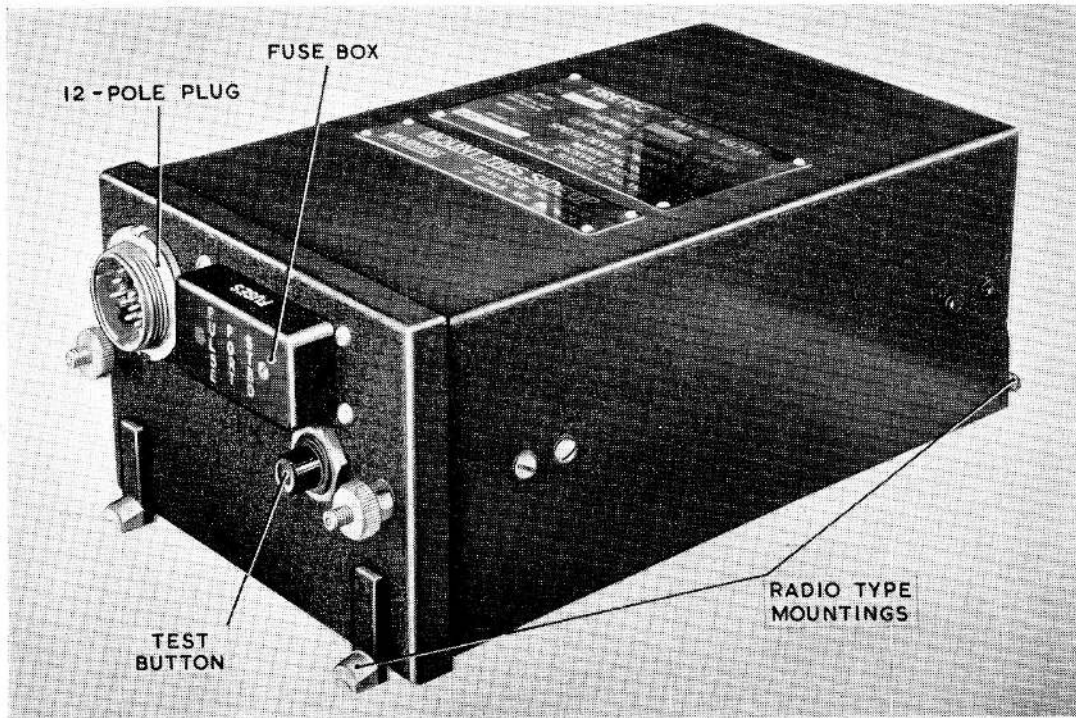

Fig. 1. Control unit, Type TP4502
2. The control units (fig. 1) contain one pulse circuit and two fire warning circuits which are identical in operation to the single zone control unit circuit described in A.P.4343, Vol. 1, Sect. 22. The pulse circuit consists of two Type 600 Post Office relays in the Type TP4502 units and of two Type 2400 Post Office relays in the Type TP5902 units